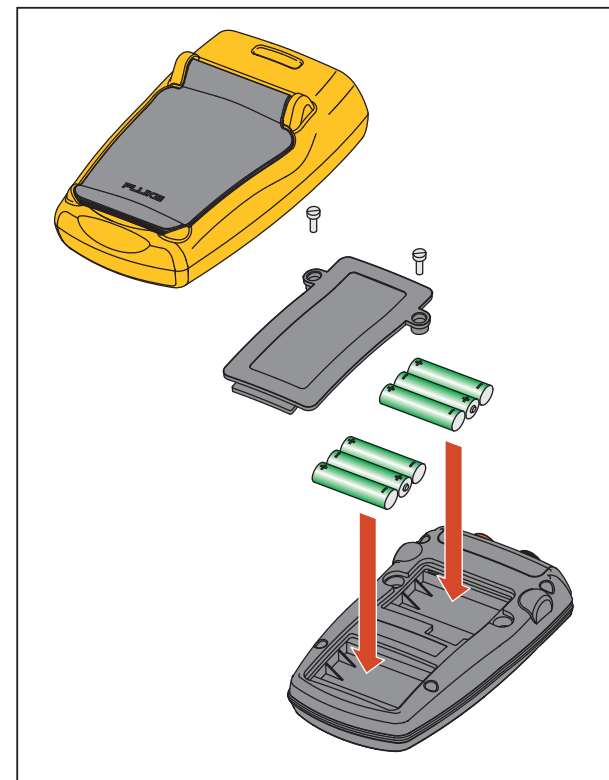

Figure 48. Battery Replacement
8. Put the Product back into the holster. See Figure 48.